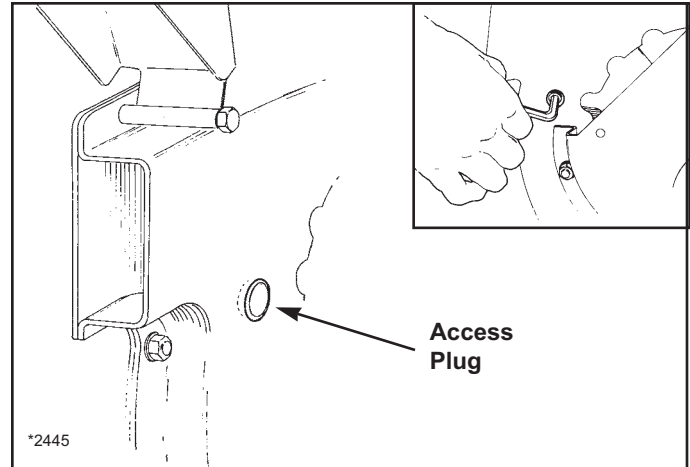

Figure 24. Chipper Knife Access Plug
4. Using a 1/4" hex wrench, loosen and remove the two socket head cap screws holding the chipper knife in place (access the screw heads from the rear of the unit), and remove the chipper knife. See Figure 24 for location and temporary removal of an access plug that permits removal of the capscrews.
8. Reinstall the access plug (Figure 24) removed earlier for capscrew access.